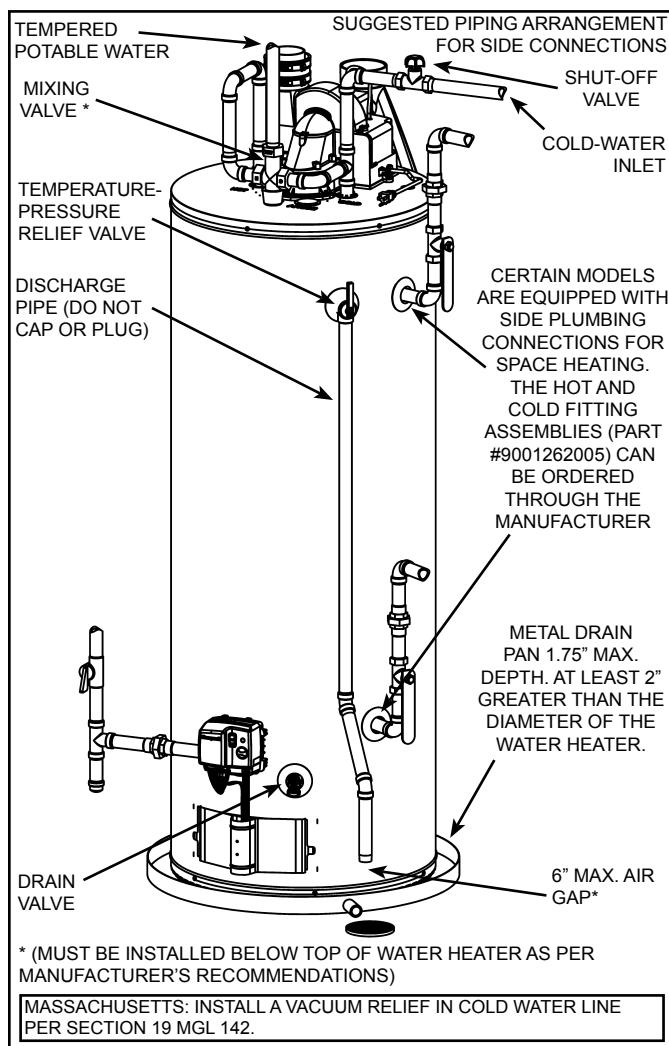
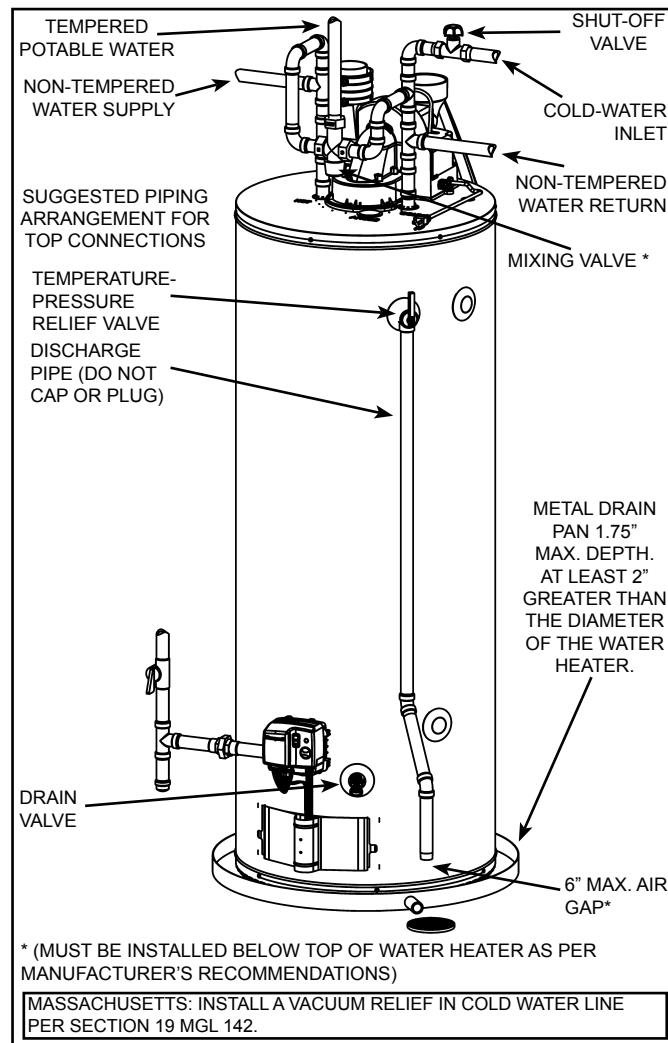

Figure 7.
Figure 8.
Models equipped with Combo Heating capabilities have the two side plumbing taps plugged (item 7 and item 10 in Figure 1 and see also Figure 7 & Figure 8). If the heater is to be installed in a Combo Heating application, these plugs must be removed.
In addition to using lowest possible temperature setting that satisfies demand of application, a mixing valve should be installed at water heater (see Figure 7 & Figure 8) or at hot-water taps to further reduce system water temperature. Mixing valves are available at plumbing supply stores. Consult a Qualified Installer or Service Agency. Follow mixing valve manufacturer's instructions for installation of the valves. Before changing the factory setting on the thermostat, read the "Operating The Temperature Control System" section in this manual.